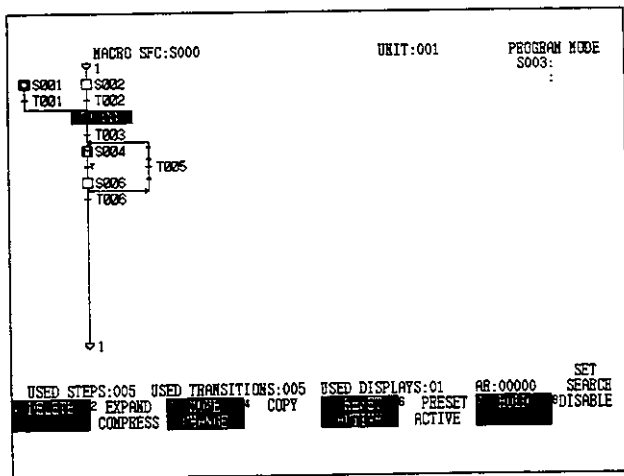

Figure 7.71
- 2) Select Set Hold from the Screen shown in *Figure 7.71*.
- 2) Select Disable from the screen shown in *Figure 7.71*.
- 2) On the screen shown in *Figure 7.71*, move the cursor to S003, and select Preset Active.